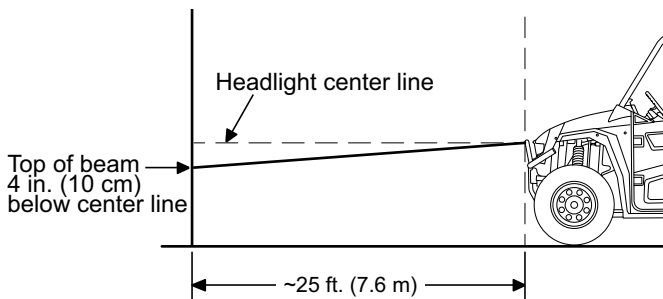

Fig. 3 Headlight Beam Adjustment
1. Park the vehicle on a flat surface adjacent to a vertical wall. The front of the vehicle should be approximately 25 ft. (7.6 m) from the wall (Ref. Fig. 3).
8. If a headlight needs to be adjusted, remove three plastic rivets (25) and the rear cover (23).